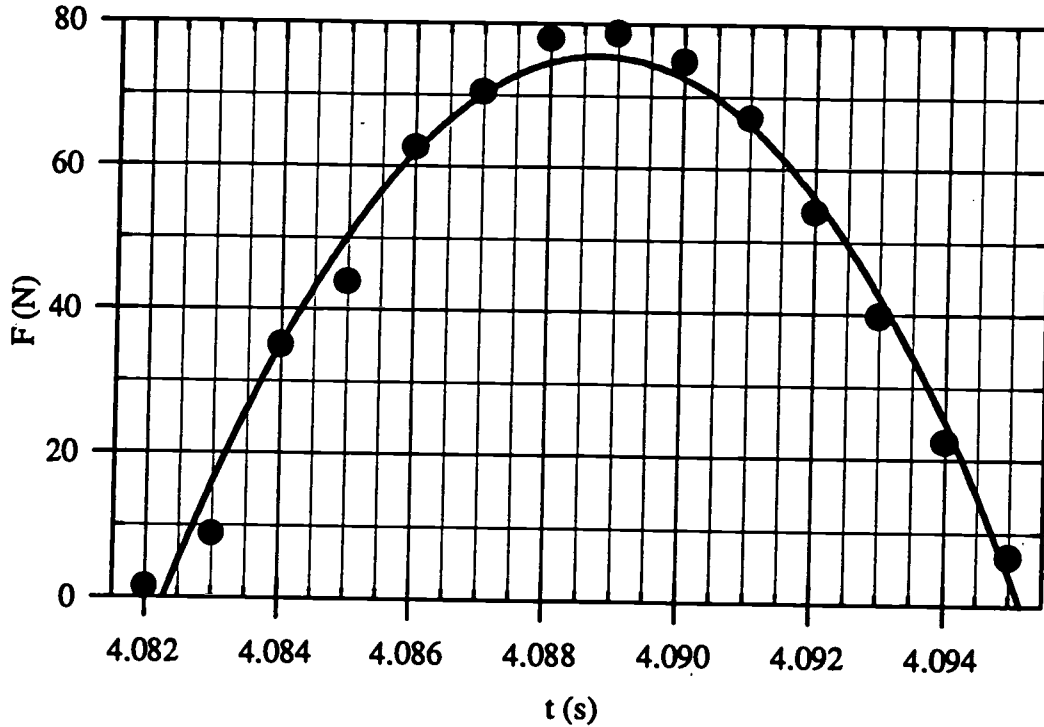

Figure 7: Actual Impulse  $F(t)$  curve (Newtons vs. sec)
1. A single cart with a strain gauge collides with a stationary object. The experimental force versus time data are shown in Figure 7. A second order polynomial fit (shown as a solid line) was made to the data. This fit is given by the polynomial